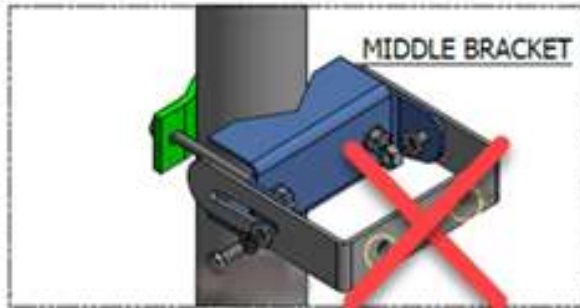

Figure 5: Original middle bracket
2. If antenna is already mounted, remove the existing middle bracket from the antenna and replace with mounting bracket J. See *Figures 5* and *6*.
4. Disregard middle bracket kit 919032. See *Figure 5*.